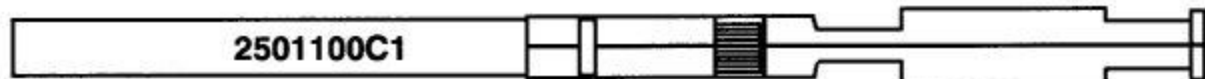

Figure 4.
9. Cut the wire on terminal butt splice 2501100C1 (Figure 4) to the appropriate length.